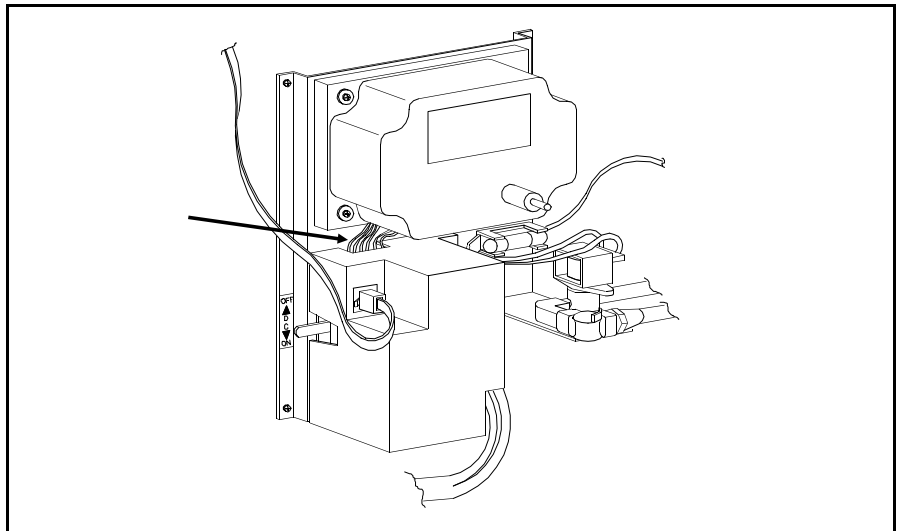

Figure 5.31 12 Volt Check At Ignition Module
25. With Mode Selector still set to Gas Mode, check for 12 Volts DC at the connector between the Power Supply board and Ignition Module (first wire from left) as shown in Figure 5.31. If you do not have 12 volts, replace the Power Supply.